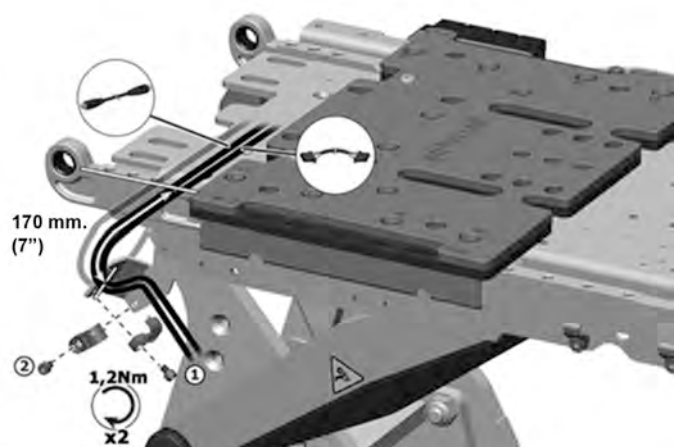

Figure 142. The distance between the first cable bracket on the AP-Elevator and the seat frame must be 170 mm. (7").
- The length of the cable loop between the first cable bracket on the AP-Elevator and the seat frame must be 170 mm. (7"). The ICS bus cable is mounted behind the Rnet bus cable in the cable brackets. See fig. 142. **NOTE!** On seats with VS leg rest, Power transfer leg rest or Power adjustable leg length, the actuators cable must always be positioned in front of the bus cables loop. This to avoid damages to the cables during leg rest movement.
brackets are mounted with one screw each. See fig. 142. Use a Torque wrench to tighten the screws. **Tightening torque 1.2 Nm / 0.9 Ft/lbs.**